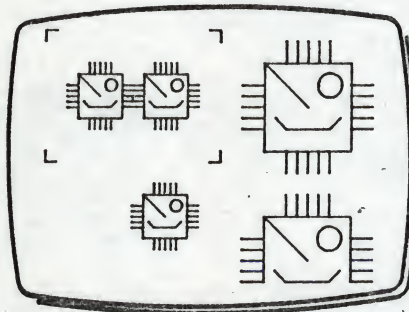

Fig 2
- 3 Frame an area containing two or more of the smaller symbols, and press and release T to enlarge it (Fig 2).